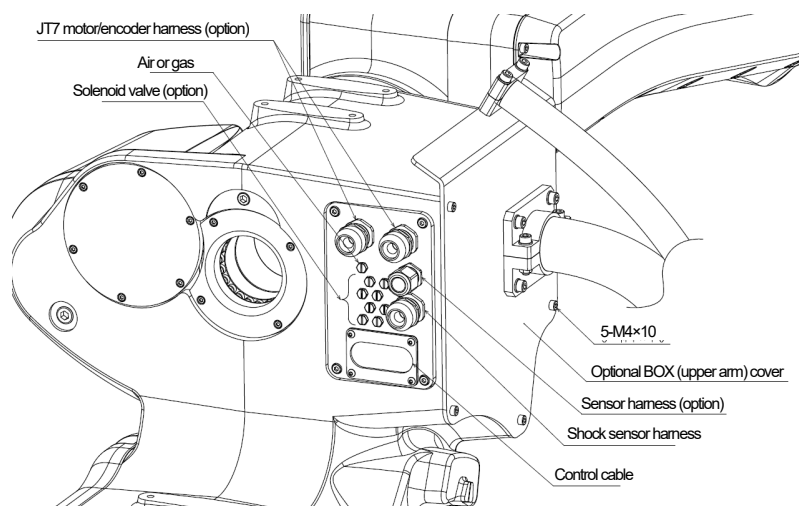
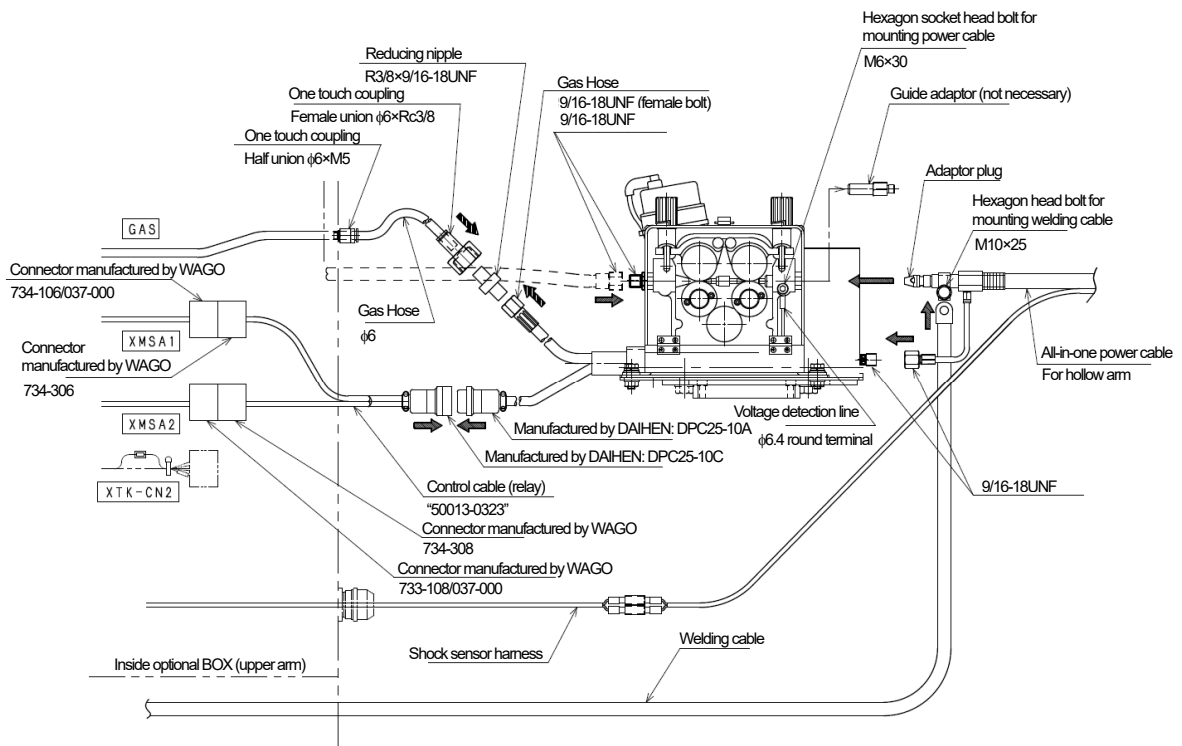

Figure 1.9 Outline of optional BOX (upper arm) (BA013N)
Figure 1.10 Connection of control cable and gas hose (BA013N)
1. Referring to Figure 1.9, unscrew five hexagon socket head bolts (M4×10) and open the cover of optional BOX (upper arm) on the upper arm.
2. Referring to Figure 1.10, connect the connectors (XMSA1, XMSA2) with the cable provided inside the optional BOX and the control cable (relay) (option). In addition, attach the one touch coupling (option), gas hose (option), and reducing nipple (option) on the air or gas piping system in Figure 1.9, and connect them with the gas hose of the wire feeder.
3. Connect the shock sensor harness of the all-in-one power cable to the connector connected to the piping system of the shock sensor harness in Figure 1.10. (Refer to the “Mounting of All-in-One Power Cable” mentioned below for the connection of the shock sensor harness.)